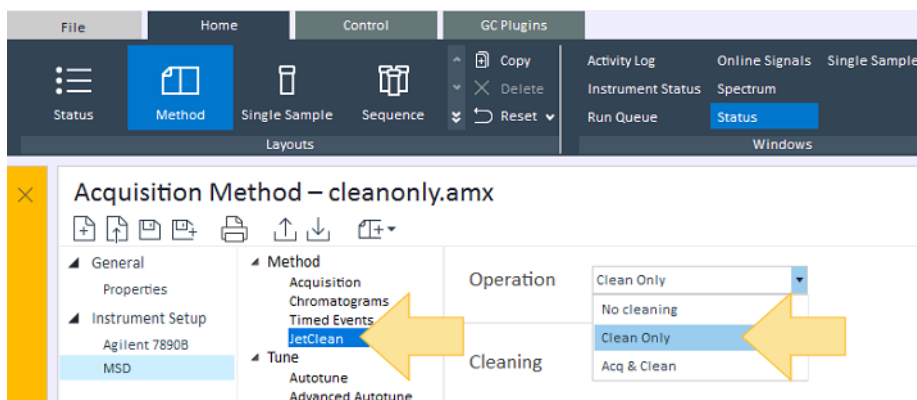

Figure 11. Clean Only JetClean method
- 3 Click **JetClean**, and from the **Operation** drop-down, select **Clean Only**. This option will not be available if your MSD is not configured for a JetClean gas controller. (See Figure 11.)